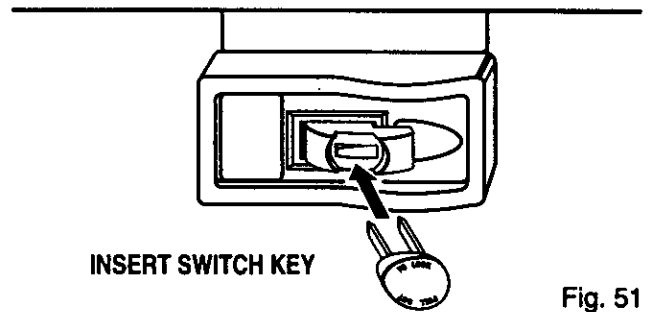

Fig. 51
- Check that the wood is not touching the blade. Insert switch key and lift switch to **ON** position. See Figures 51 and 52.